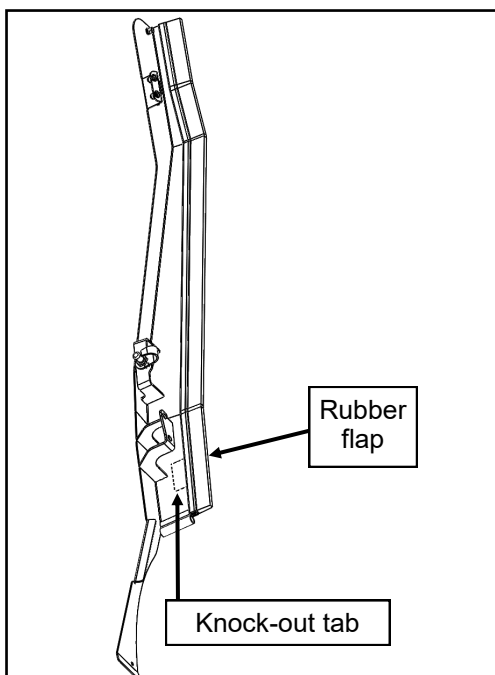

Fig. 6.1 (C-pillar panel, for right side only)
**6.1** If installing on an 800 vehicle, skip this step. If installing on a 1000 vehicle, remove the knock-out tab from just the right side C-Pillar to clear air intake that is welded to the ROPS. See figure 6.1 below.